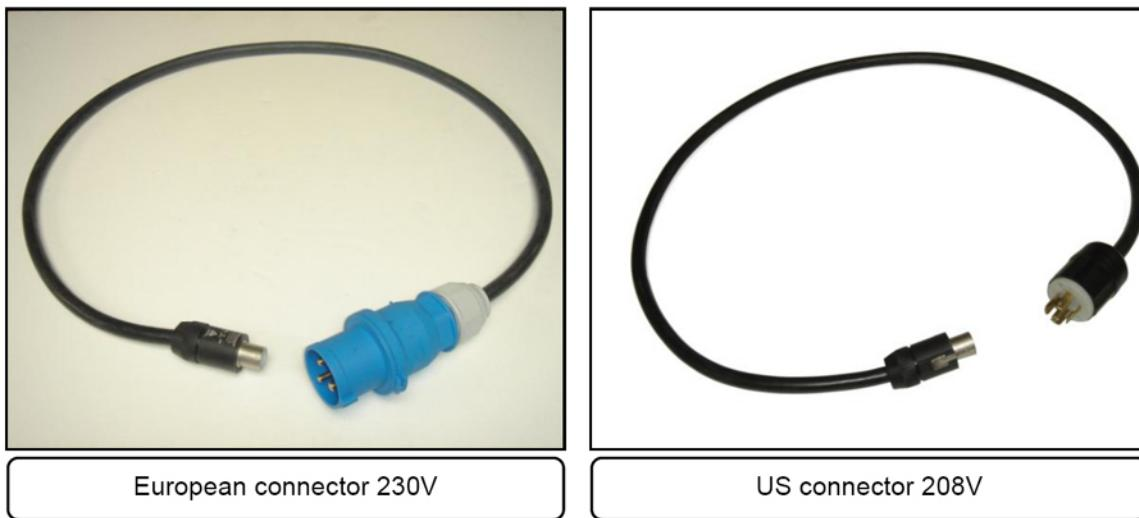

Figure 4-13 Power Cables
2. Plug the power cable into a 32 Amp socket. (**Figure 4-13**)